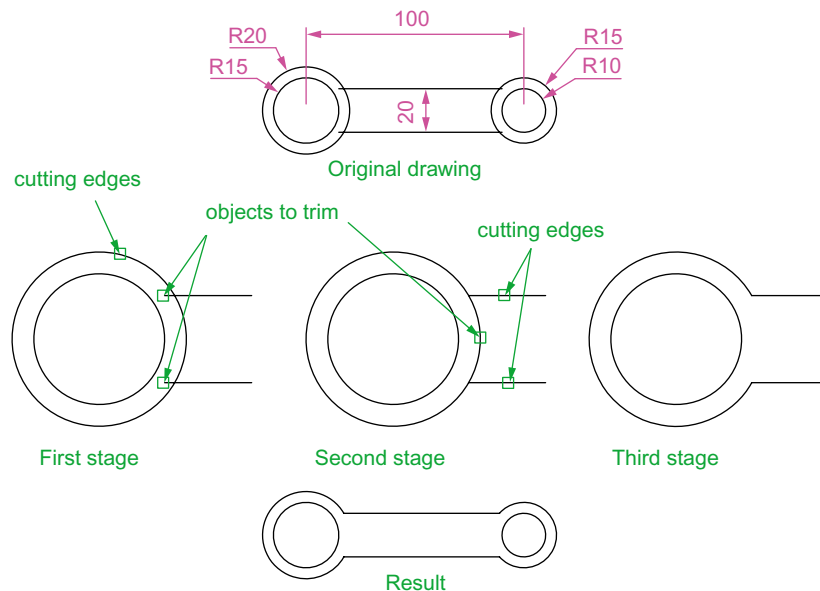

Fig. 5.31 First example – Trim
### First example – Trim (Fig. 5.31)
1. Construct the drawing **Original drawing** in Fig. 5.31.
3. This completes the **First stage** as shown in Fig. 5.31. Repeat the **Trim** sequence for the **Second stage**.
4. The **Third stage** drawing of Fig. 5.31 shows the result of the trims at the left-hand end of the drawing.
5. Repeat for the right-hand end. The final result is shown in the drawing labelled **Result** in Fig. 5.31.